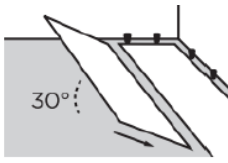

Figure 3
- Position the first plank of the second row by angling it up slightly, pushing forward and interlocking the side tongue (**Figure 3**). Slide the plank to the right to align the edges of the end joint.